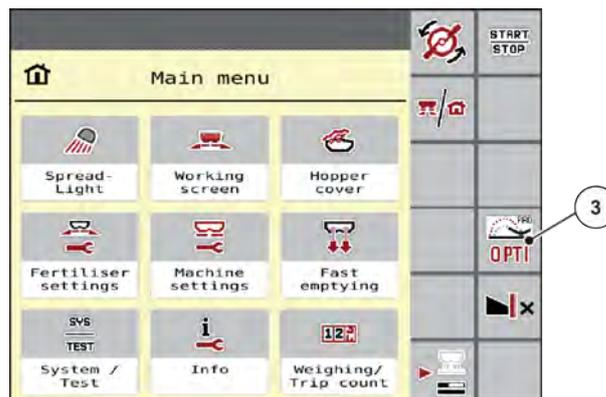

Fig. 15: OptiPoint activated in the main menu
- ▶ Press the “OPTI” function key to activate the headland mode. Or can be activated in the main menu, see *Fig. 15 OptiPoint activated in the main menu*.